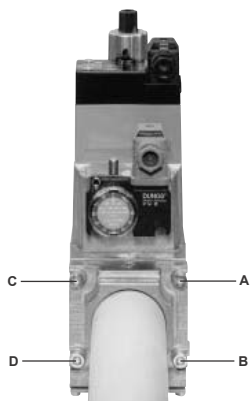
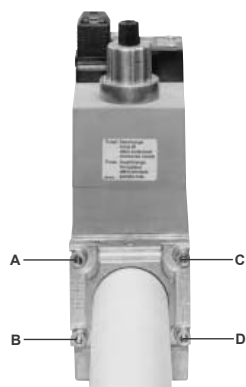

Fig. 21
Fig. 22
1. Loosen screws A and B **do not** unscrew (Fig. 21 - Fig. 22).
2. unscrew screws C and D (Fig. 21 - Fig. 22).